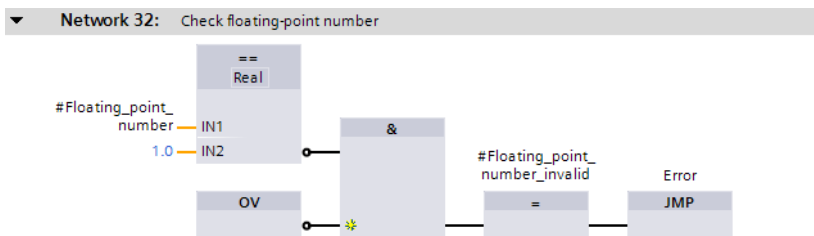
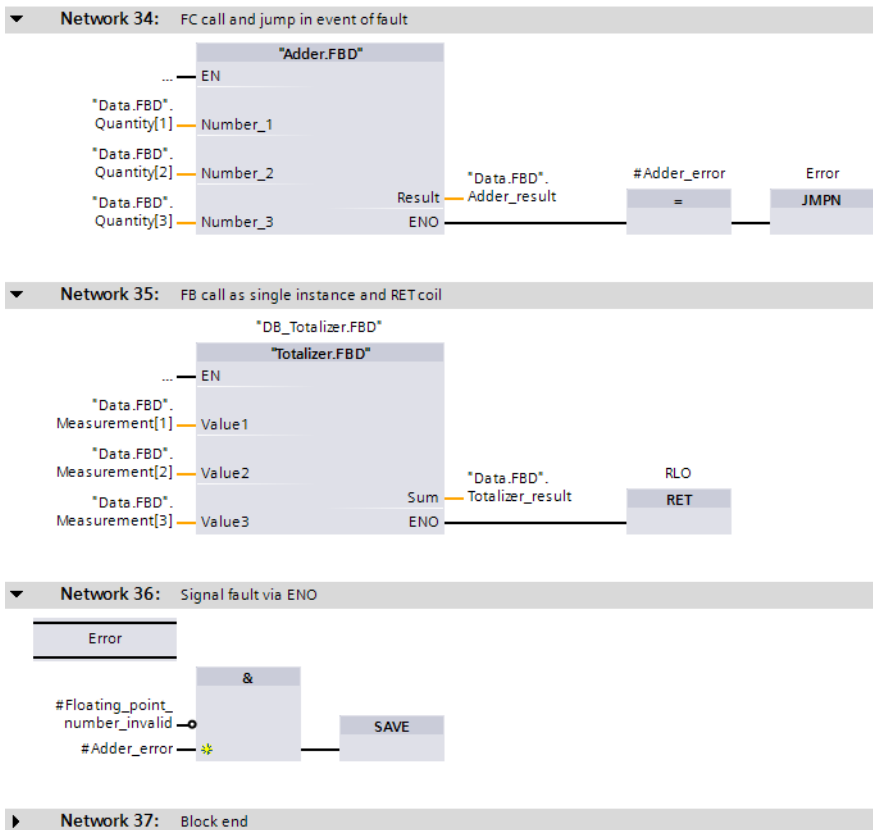

Fig. 8.33 Example of scanning a status bit
Fig. 8.36 Examples of functions for program flow control in the function block diagram
Example: In Fig. 8.33, a floating-point number is checked for validity. To do this, the tag is compared with any floating-point constant. The type of comparison does not play a role here. If the floating-point number is invalid, the comparison is incorrect in all cases and the status bit OV (overflow) is set. Thus if the comparison is incorrect and the overflow bit is set, the intermediate memory *#Floating_point_number_invalid* is set and the JMP (jump) to the *Error* label is carried out.
You can control the ENO output of the block with the SAVE box if you call the box in the last network of the block. In the example in Fig. 8.36 on page 344, the error messages are collected in the last network of the block: *#Floating_point_number_invalid* (error with “1”) and *#Adder_error* (error with “0”). The logic operation must not be fulfilled with an error; in this case signal state “0” is transferred by the SAVE box to the ENO output.
Example: In Fig. 8.36 on page 344, in the first network the `#Adder_error` tag is set to signal state "0" in the event of an error in the "Adder.FBD" block, and a jump is made to the *Error* label.
Fig. 8.33 on page 341 and Fig. 8.36 on page 344 show examples of the jump functions. In the first example, a jump is carried out by means of a JMP coil to the *Error*
In the second network in Fig. 8.36, the block with the RET box is left if the “Adder” block does not signal an error.
Network 29 in Fig. 8.36 shows the call of a function (FC). The function name is present as the title in the call box. In the event of an error in the block (ENO is then “0”), #Adder_error is set to “0” and a jump made to the network with the Error label. In network 30, the call of a function block is present as a single instance. The name of the function block is present as the title in the call box, the instance name – in this case the name of the instance data block – is present above the box.